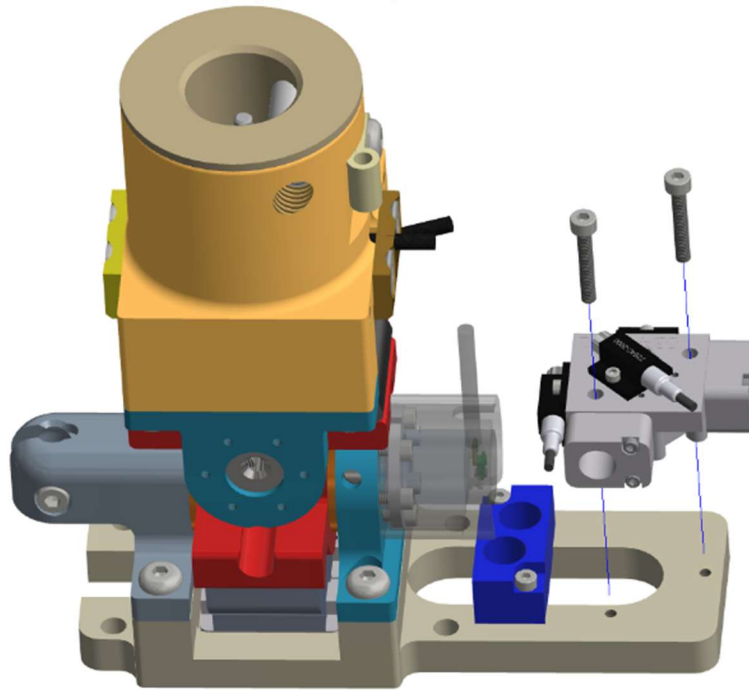

Figure 10-21. Remove the foot 6-Axis Accel/ARS Mount
10.2.17 Remove the foot 6-Axis Accel/ARS Mount (474-5728-1,2) by removing two M2.5 X 0.45 X 16 LG. SHCS (Figure 10-21).